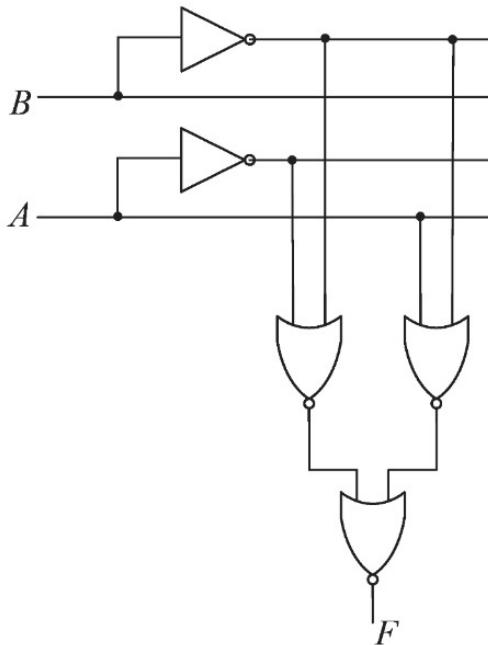

Fig. 3.18
34. The logic block shown in Fig. 3.18 has an output F given by _____